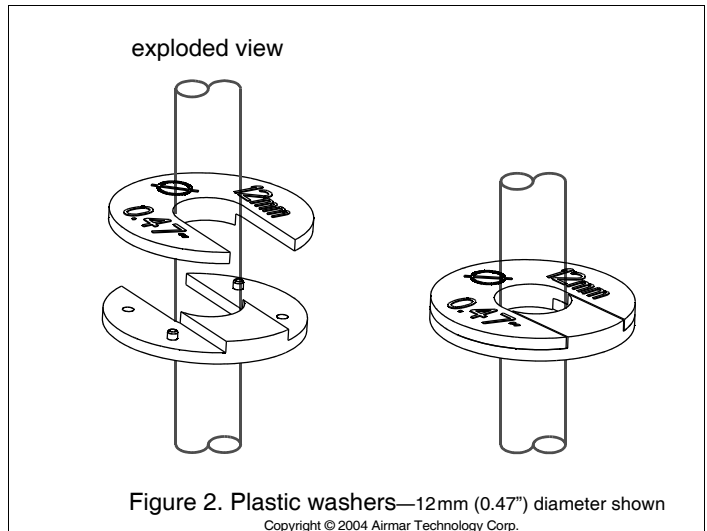

Figure 2. Plastic washers—12mm (0.47") diameter shown
- Put two of the plastic-washer pieces around the cable and press the halves together to form a closed ring (Figure 2).